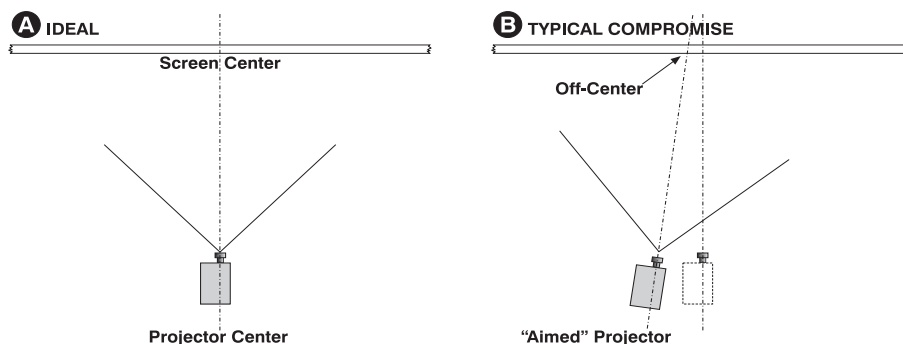

Figure 2-1 Position the Projector
1. Position the projector at an appropriate throw distance (projector-to-screen distance) and vertical position. Ideally, center the projector with the theatre screen. If competing for space with an already present film projector, aim the projector slightly off-center as shown in Figure 2-1. This will slightly increase side keystoneing, but will minimize the horizontal lens offset required.